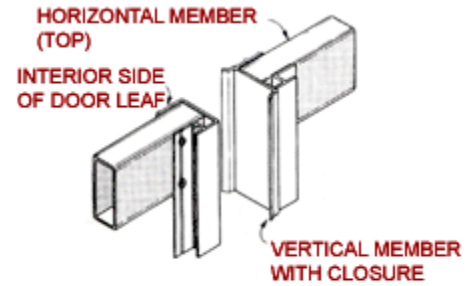

FIGURE 5
6.) Secure all intermediate horizontals with 4 screws/joint (2 per side) See **Fig. 5**